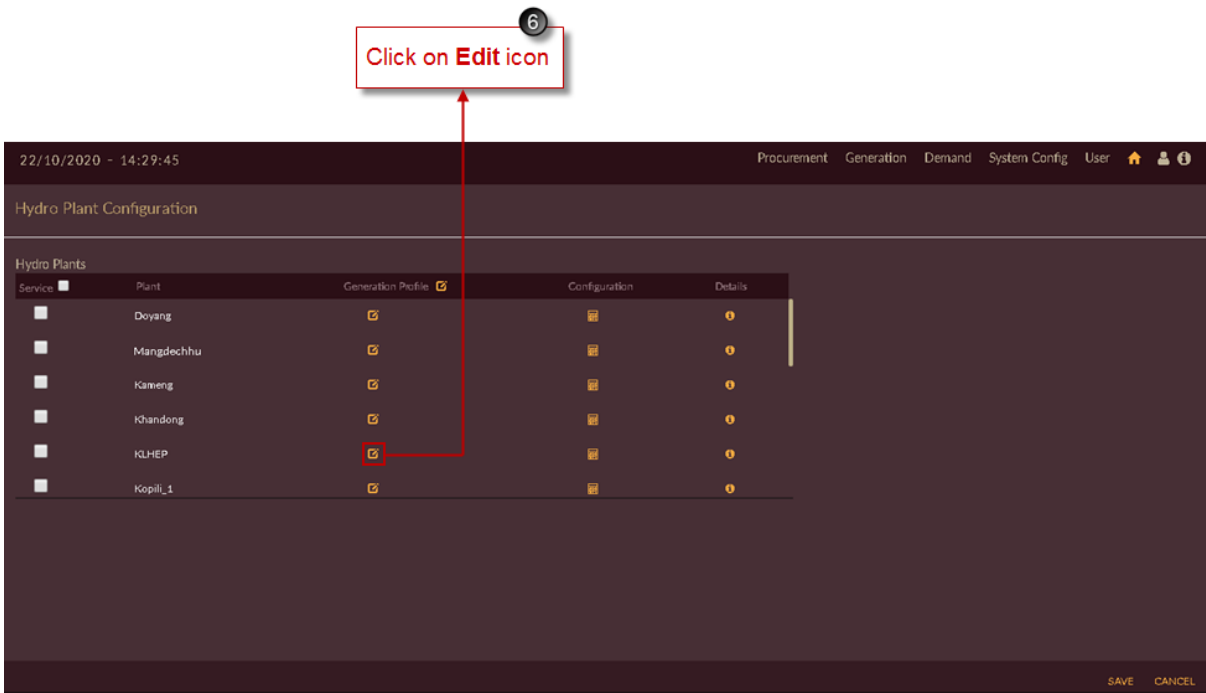

Figure 203. Edit/View Configured Hydro Generation Portfolio for Plant
6. Click on **Edit**  icon of respective plant for which you want to see or edit the data. Here **KLHEP Hydro** plant is selected in Figure 203.